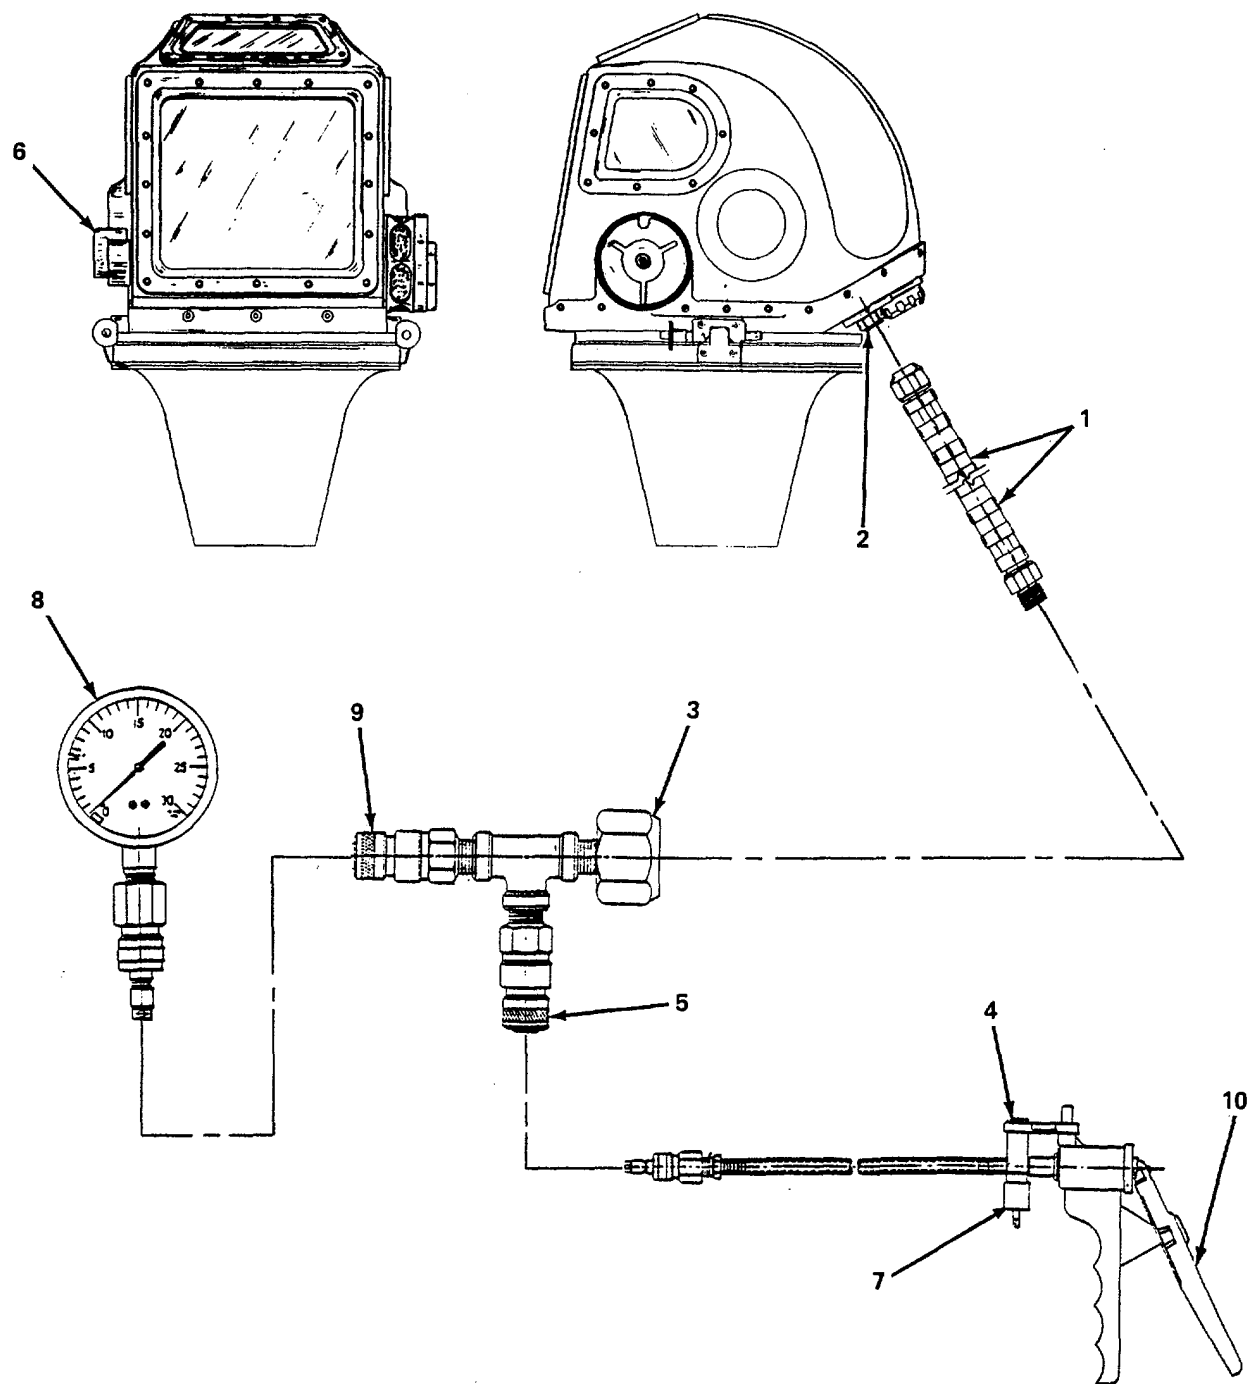

Figure 2-2. Vacuum Test, One Way Valve.
a. Vacuum Test of the One Way Valve (figure 2-2).
- (1) Remove protective cap and gasket from helmet air supply adapter.
- (2) Connect air whip (1) to helmet air supply adapter (2) and other end to adapter (3).